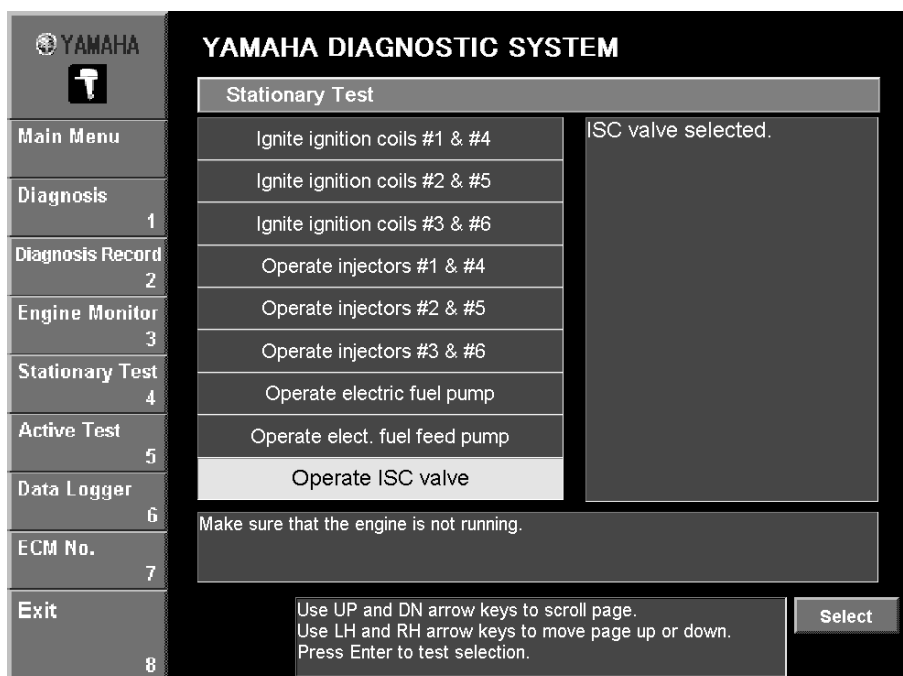

Fig. 40
1. Select the test to be performed, and then click the **Select** button or press the Enter key on your keyboard. (Fig. 40)